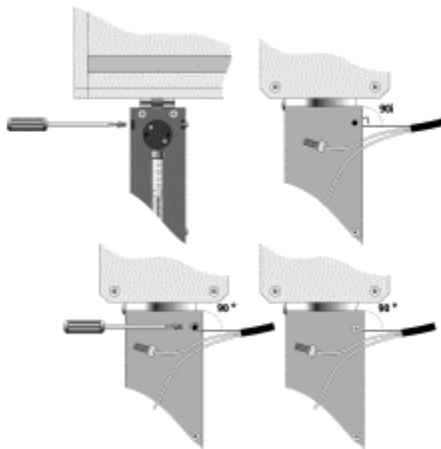

Figure 4-7 Removing the Transfer Tubing Kit at the Dilutor Side
2. Unscrew the left top dilutor cover TORX screw and remove the guiding wire (Figure 4-7).